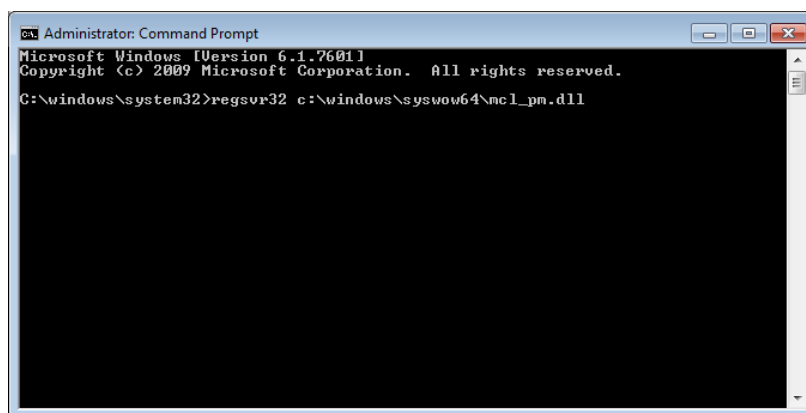

Figure 5 – Type command
- Type regsvr32 c:\windows\syswow64\ mcl_pm.dll, see figure 5